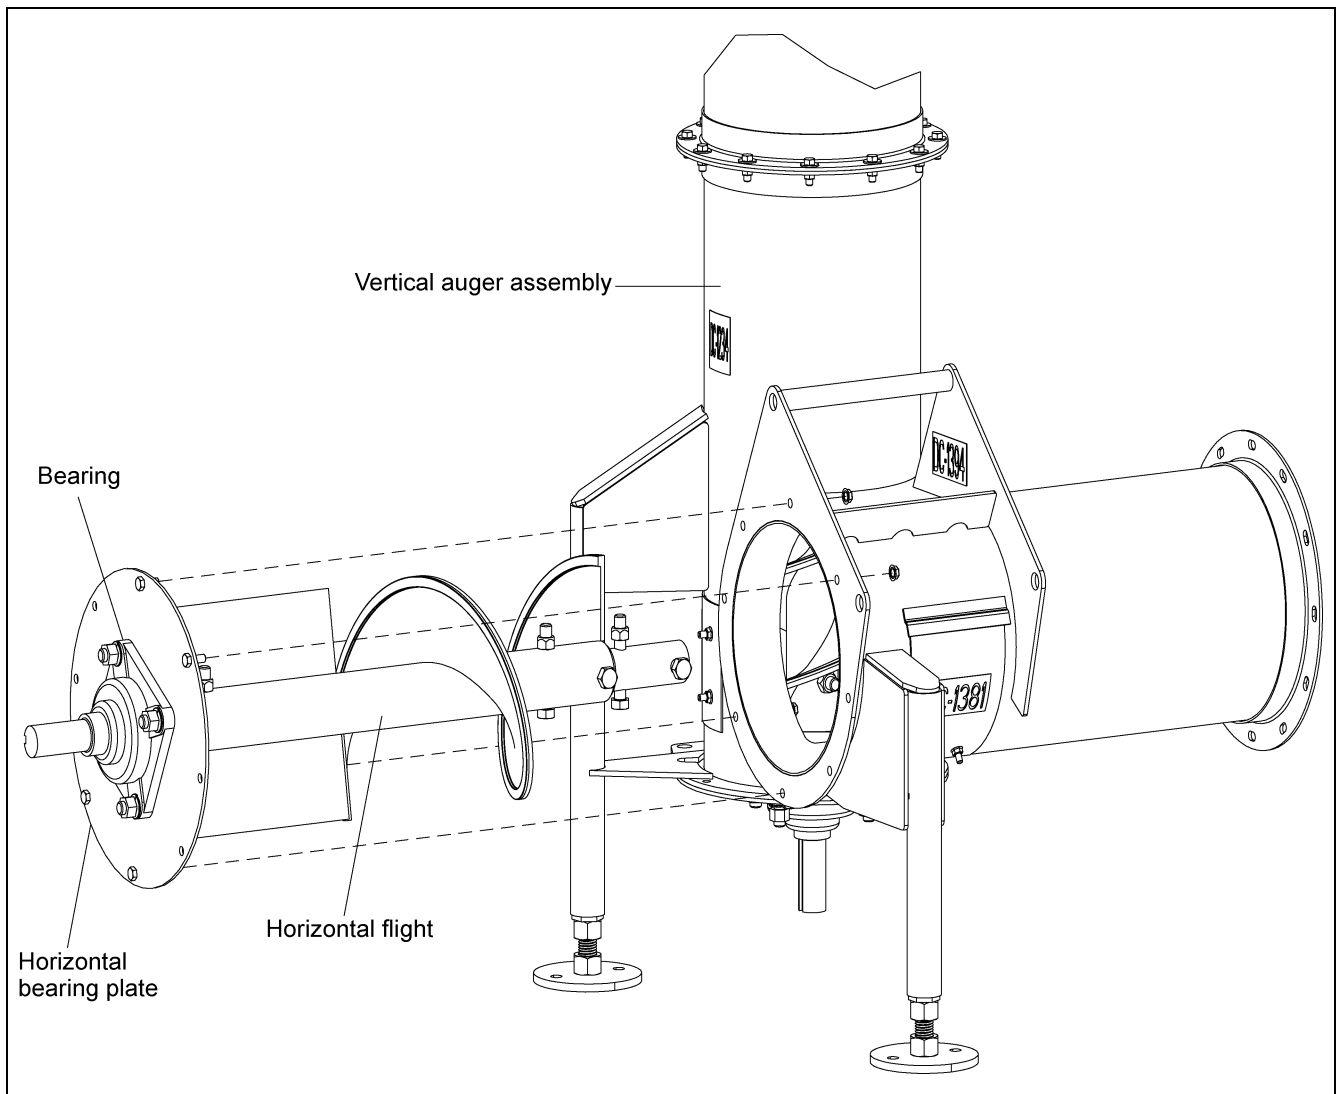

Figure 3A
- A. Unbolt the *horizontal bearing plate* from the *vertical auger assembly*. (See Figure 3A.) Set aside the *bearing plate* with the *bearing*, connecting hardware and the *horizontal flight* until the auger is attached to the bin.